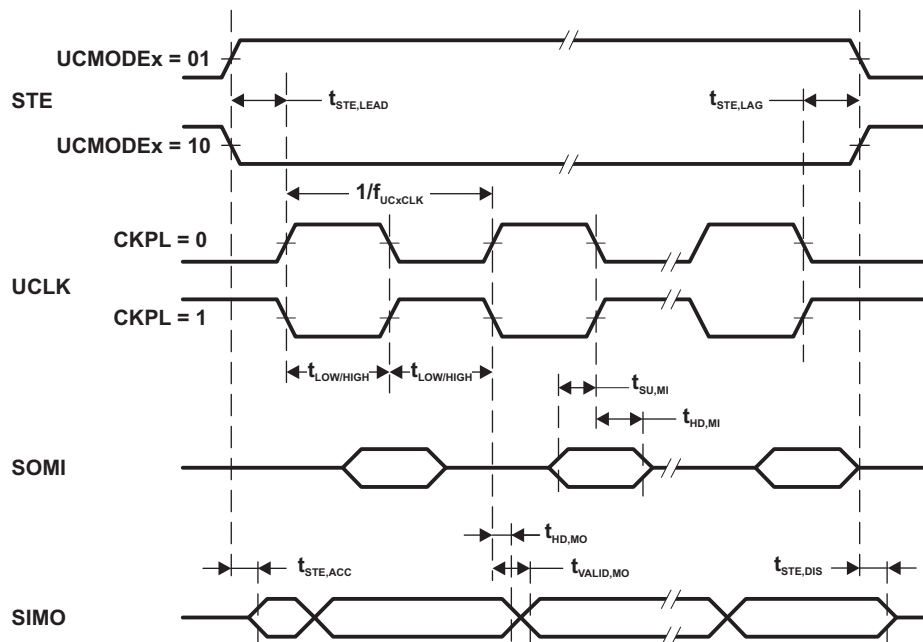
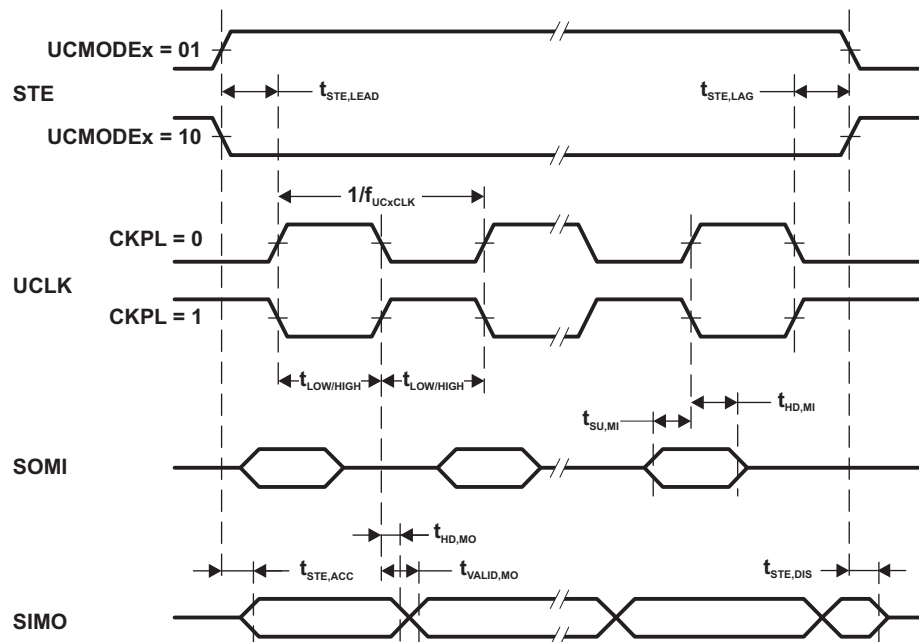

Figure 5-3. SPI Master Mode, CKPH = 0
Figure 5-4. SPI Master Mode, CKPH = 1
- (1) f_{UCxCLK} = 1/2t_{LO/Hi} with t_{LO/Hi} = max(t_{VALID,MO}(eUSCI) + t_{SU,SI}(Slave), t_{SU,MI}(eUSCI) + t_{VALID,SO}(Slave)). For the slave parameters t_{SU,SI}(Slave) and t_{VALID,SO}(Slave) refer to the SPI parameters of the attached slave.
- (2) Specifies the time to drive the next valid data to the SIMO output after the output changing UCLK clock edge. Refer to the timing diagrams in Figure 5-3 and Figure 5-4.
- (3) Specifies how long data on the SIMO output is valid after the output changing UCLK clock edge. Negative values indicate that the data on the SIMO output can become invalid before the output changing clock edge observed on UCLK. Refer to the timing diagrams in Figure 5-3 and Figure 5-4.